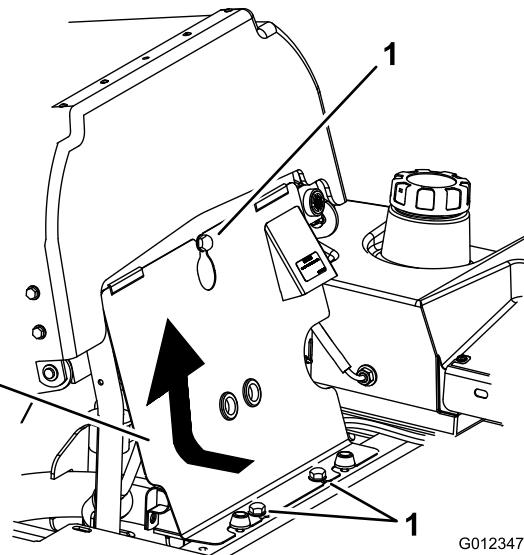

Figure 37
1. Tilt the seat forward, loosen the bolts holding the front engine panel and remove it (Figure 37).